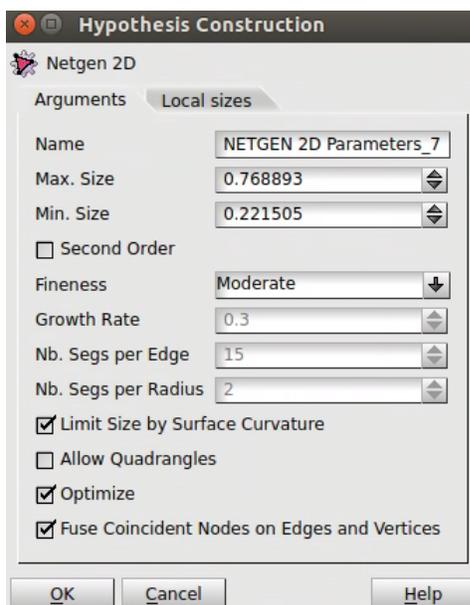

Figure 2: Screenshot of the Netgen 1D-2D hypothesis window in SALOME.
- **Hypothesis:** here we can specify the hypothesis to be used by the algorithm method. Clicking on the first icon on the right, we can specify the parameters of the algorithm. See the SALOME documentation for more details about the options. For example, for the Netgen 1D-2D algorithm, a window opens with all the options shown in the Figure 2.